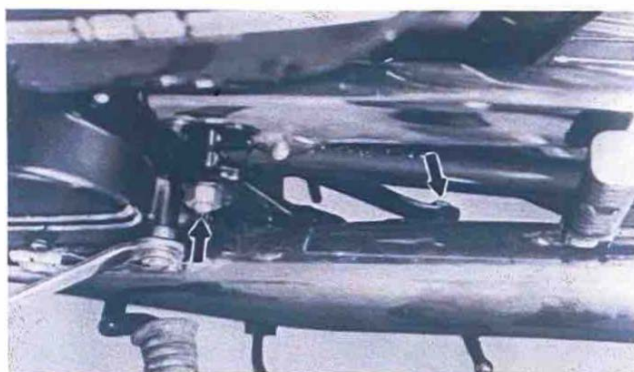

Fig. 37
- (3) Install the left side muffler with nuts. (Fig. 37)